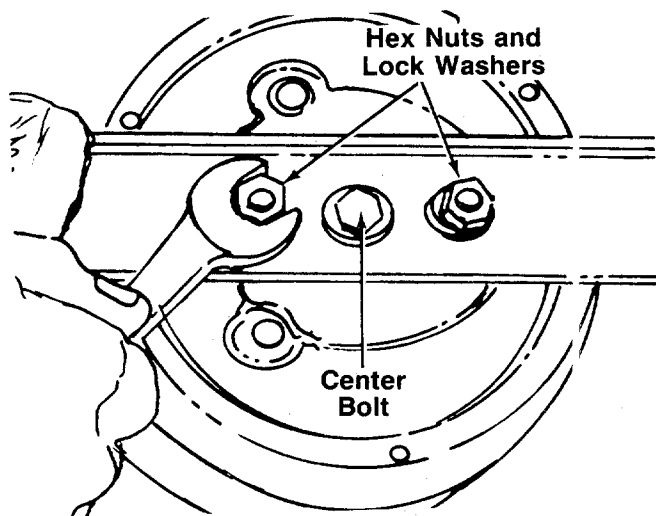

FIGURE 25.
When removing the cutting blade for sharpening or replacement, protect hands by using heavy gloves or a rag to grasp the cutting blade. Remove the two hex nuts and lock washers which hold the blade to the blade brake/clutch. See figure 25.
5. Remove the blade by removing two hex nuts and lock washers. Refer to figure 25.